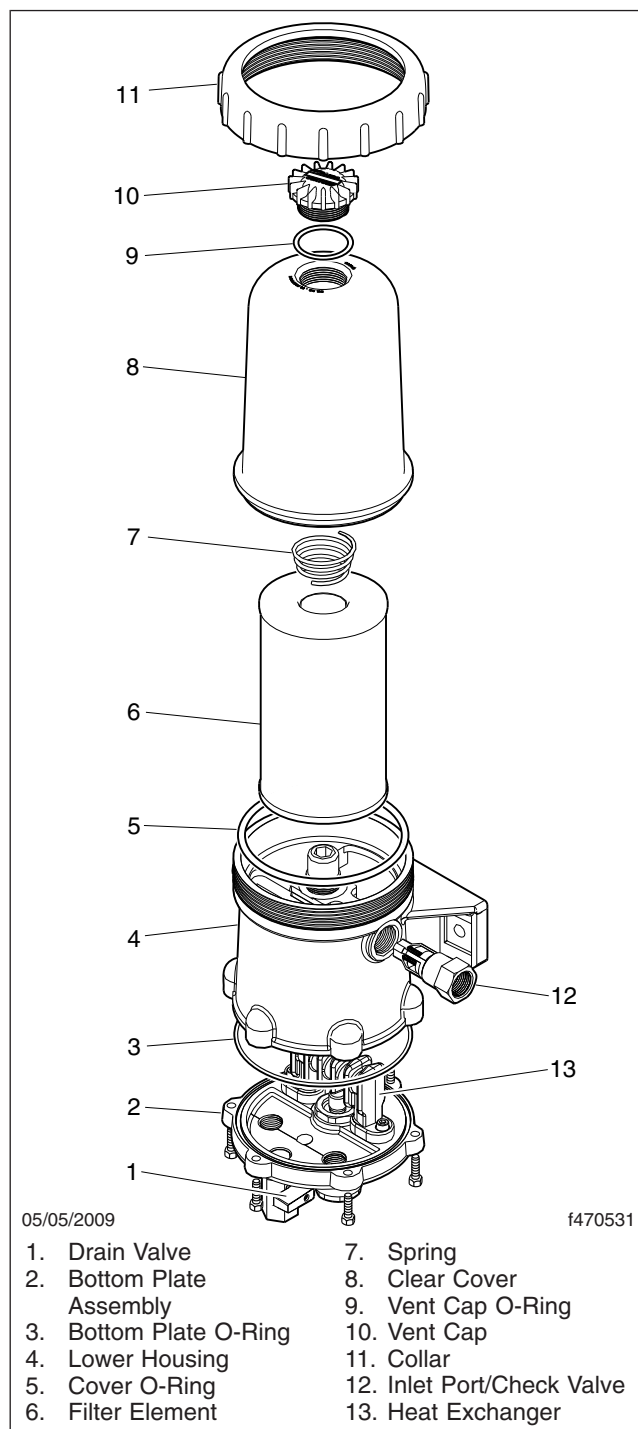
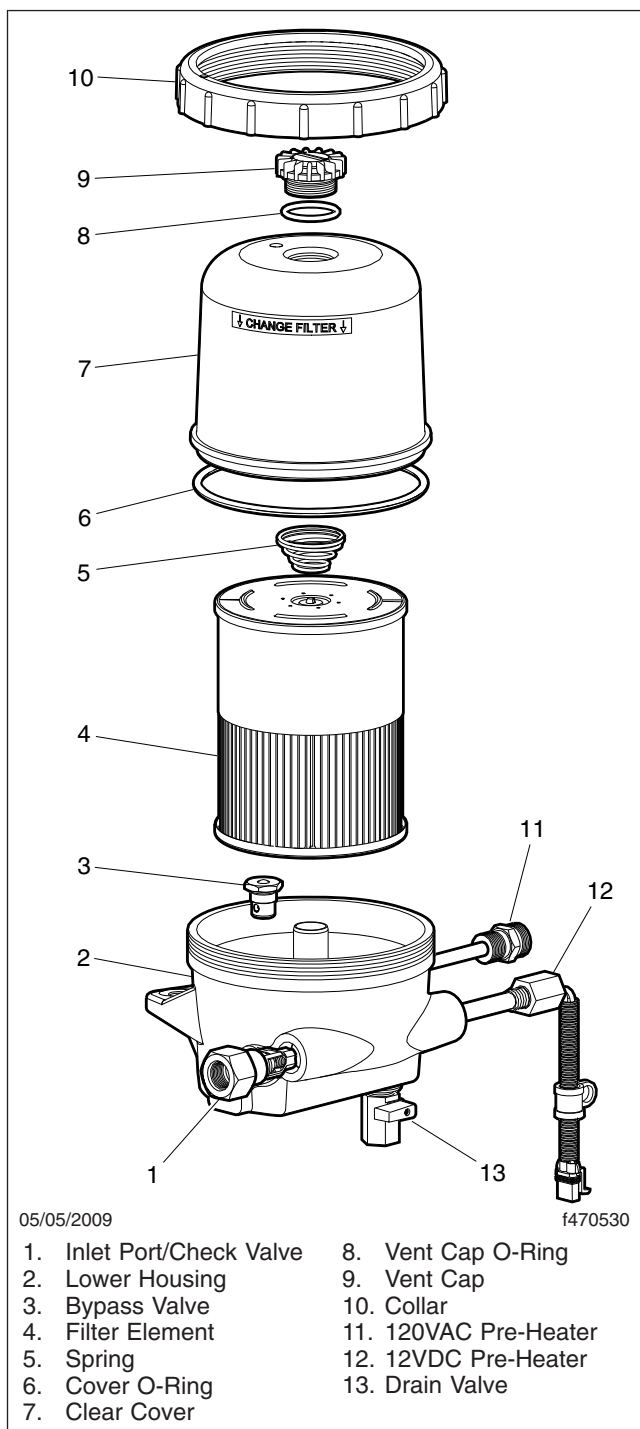

Fig. 4, DAVCO Fuel Pro 382
Fig. 5, DAVCO Fuel Pro 482
6. Remove the filter, cover O-ring, and vent cap O-ring. Dispose of them in an environmentally acceptable manner. See Fig. 4 or Fig. 5.